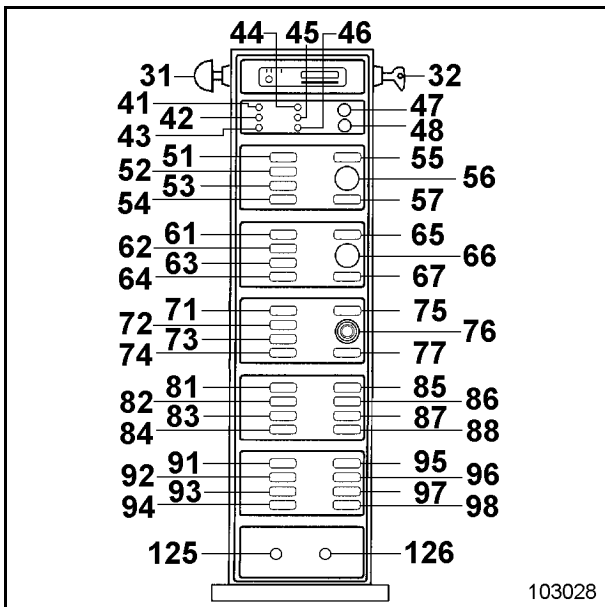

Fig. 2-77:
- to activate the parking brakes, press switch (82, Fig. 2-77:).
The track brakes can also be activated with switch (72, Fig. 2-77:).